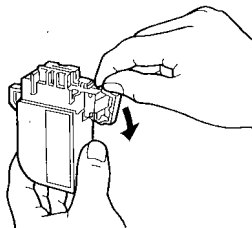

Figure 1-15
- 4) Hold the cartridge as shown in Figure 1-15, and remove the protection tab (orange plastic) from the head unit.